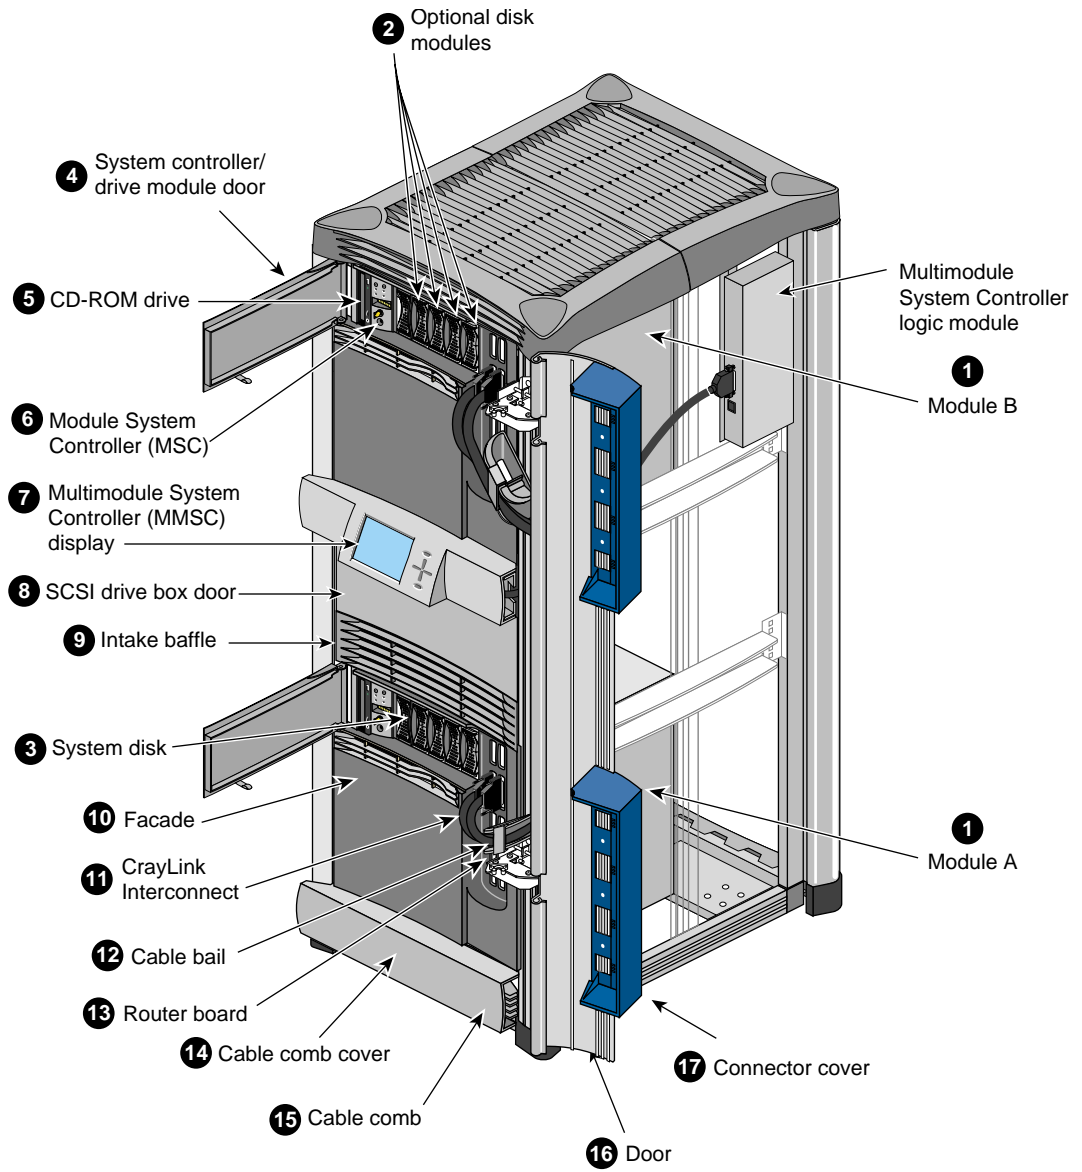
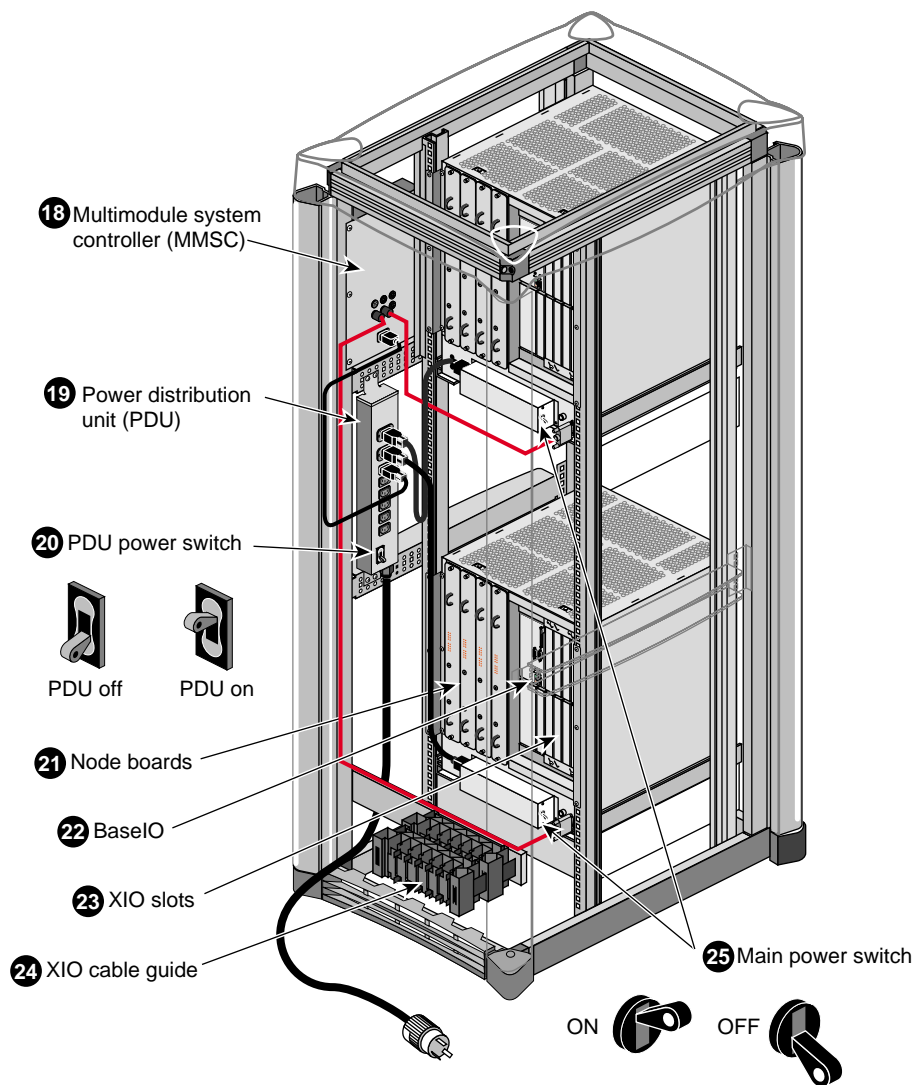

Figure 2-1 SGI 2400 and 2800 Rackmount System (Front View)
Figure 2-2 SGI 2400 and 2800 Rackmount Rear View
Figure 2-1 and Figure 2-2 show the major parts of the SGI 2400 and 2800 rackmount system. These parts are briefly described in Table 2-1.
Note: In Figure 2-1, the side panel is removed for clarity.
Note: In Figure 2-2, the side panel is removed for clarity.
1. Module A/Module B	The modules shown in Figure 2-1 are independent computing subsystems with a separate set of CPUs (central processing units) disks, System Controller, and I/O connections. There can be up to two modules in a rack and up to sixteen modules in a multirack configuration.
3. System disk	The system disk contains the operating system and other key software directories. The system disk must be installed in the drive position shown in Figure 2-1. Note that the system disk is oriented differently than the other drives in the system. See "Loading the Single Connector Assembly (SCA) Drives Into the System" on page 63 for additional information.
The MMSC and display are two separate units as shown in Figure 2-1 and Figure 2-2.